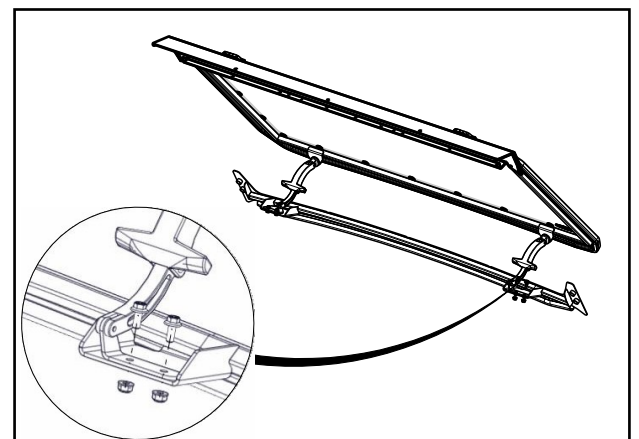

Fig. 10.4 Windshield latch fasteners
**10.4** Per fig. 10.4, attach each latch bracket to the cowl with (2) 1/4-20 x 5/8" bolts and nuts and tighten.